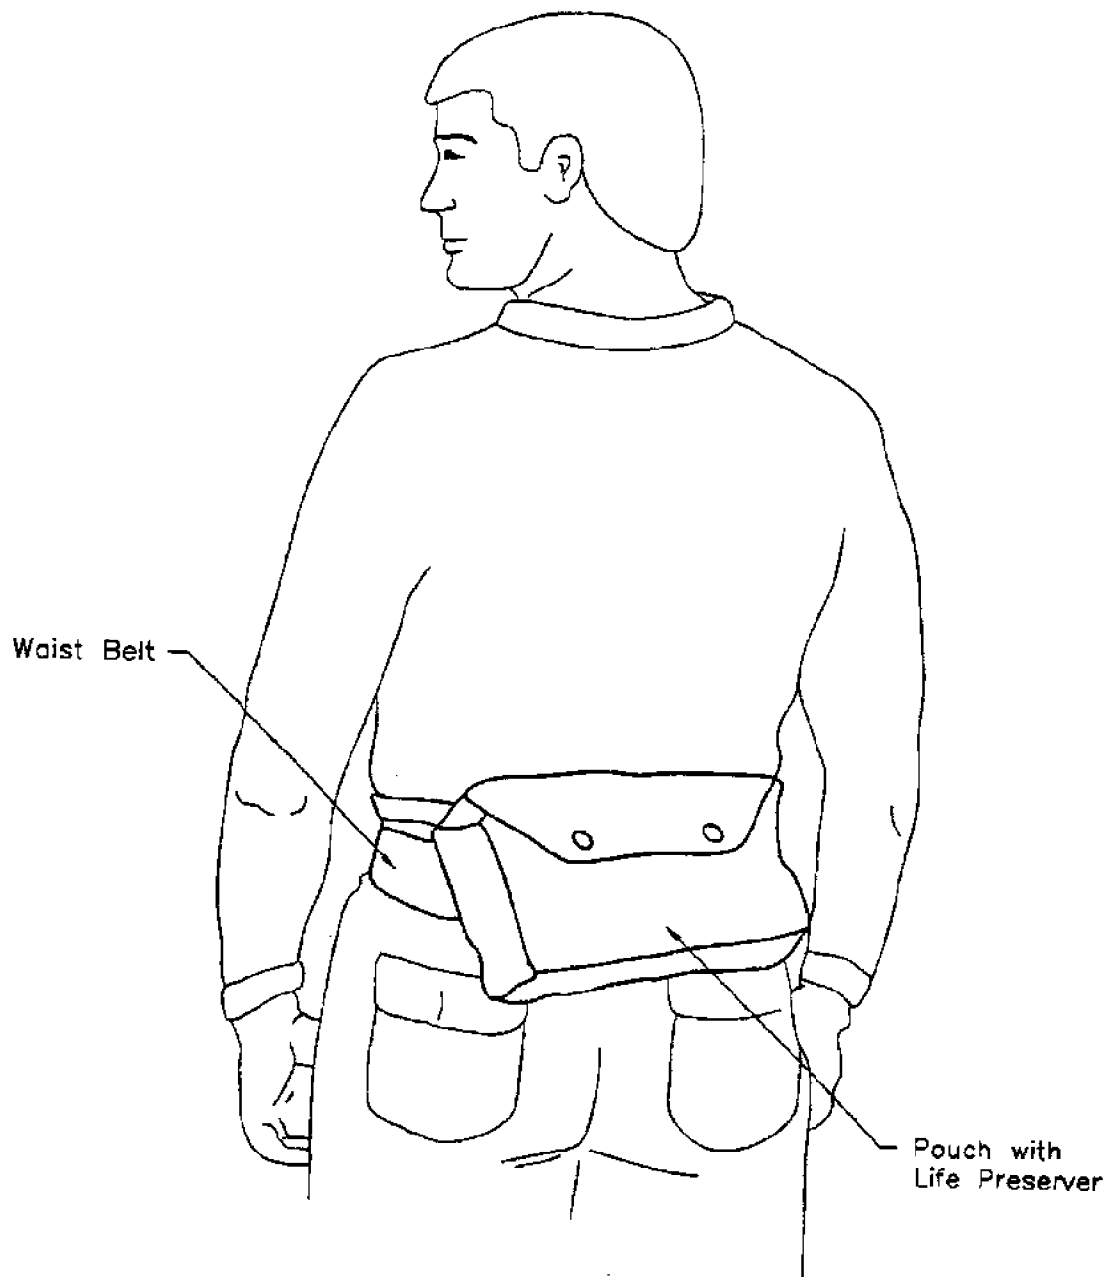

Figure 077-2-13. Abandon-Ship Type Life Preserver Pouch
1. With life preserver rolled up in pouch, secure waist belt. Adjust belt to allow complete and free rotation of the pouch around the waist for donning. Ensure the pouch opening faces up. While not in use, wear pouch at the small of the back (see Figure 077-2-13).